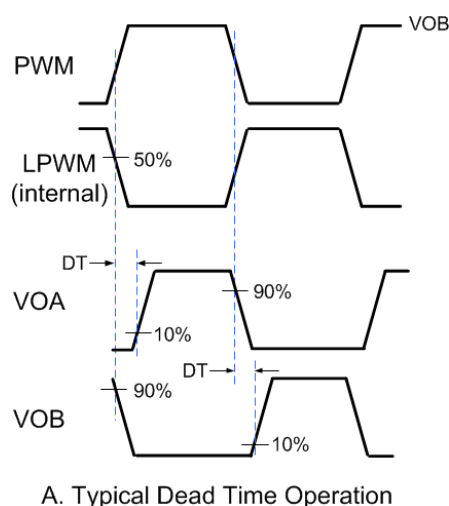
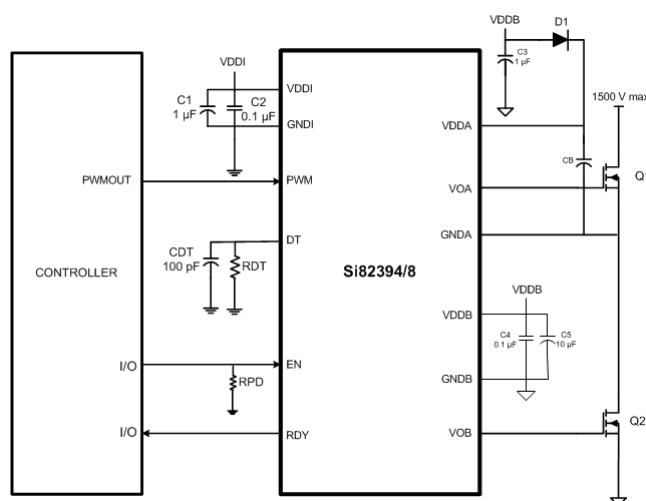

**Figure 2.18. Dead Time Waveforms for High-Side/Low-Side Drivers**
**Figure 3.1. Si82394/8 Application Diagram**
| H   | H               | P               | P    | P    | H   | L   | H               | See Dead-time note and <a href="#">Figure 2.18 Dead Time Waveforms for High-Side/Low-Side Drivers on page 17</a> for timing |
All high-side/low-side drivers (Si82394/8) include programmable dead time, which adds a user-programmable delay between transitions of VOA and VOB. When enabled, dead time is present on all transitions. The amount of dead time delay (DT) is programmed by a single resistor (RDT) connected from the DT input to ground per the equation below. Note that the dead time pin should be connected to GND1 through a resistor between the values of 6 k $\Omega$  and 100 k $\Omega$  and a filter capacitor of 100 pF in parallel as shown in Figure 3.1 Si82394/8 Application Diagram on page 18. It is highly recommended it not be tied to VDD1. See Figure 2.18 Dead Time Waveforms for High-Side/Low-Side Drivers on page 17 below.